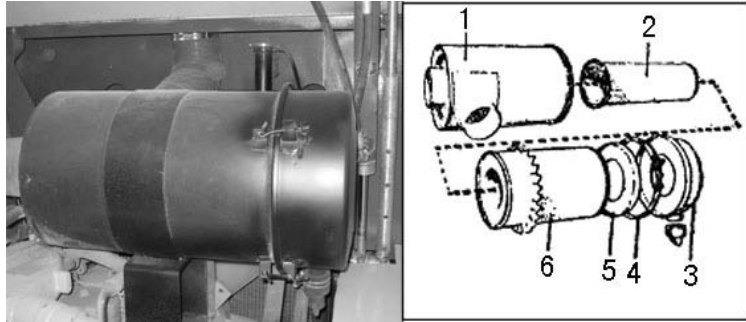

Figure 3-10
3.4.2.1 Check and clean the air filter (figure 3-10)